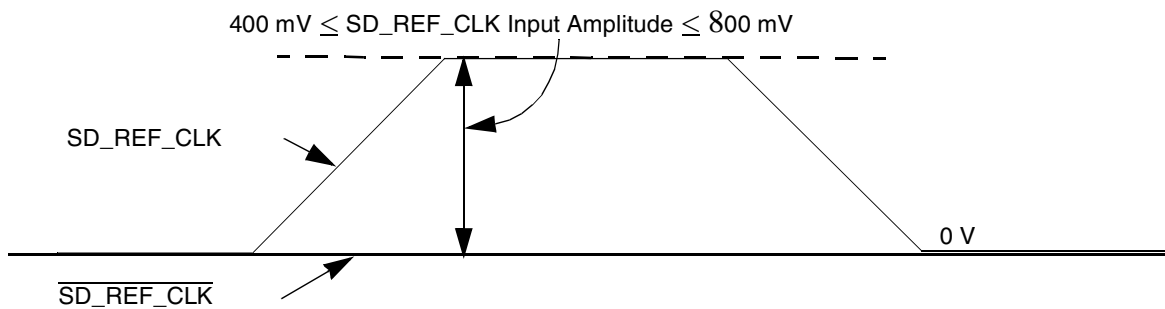

Figure 43. Single-Ended Reference Clock Input DC Requirements
- The SD\_REF\_CLK input average voltage must be between 200 and 400 mV. Figure 43 shows the SerDes reference clock input requirement for single-ended signaling mode.